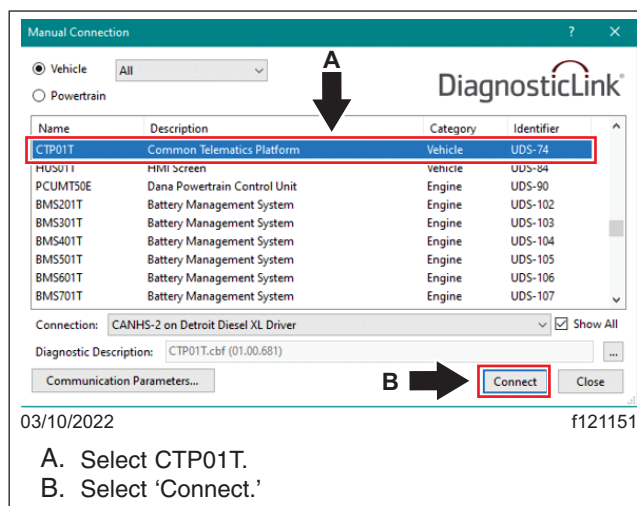

Fig. 26, Manual Connection Window
7. In the 'Manual Connection' window that appears, select 'CTP01T,' then select the 'Connect' button. Wait until the CTP01T connection turns green. See Fig. 26.